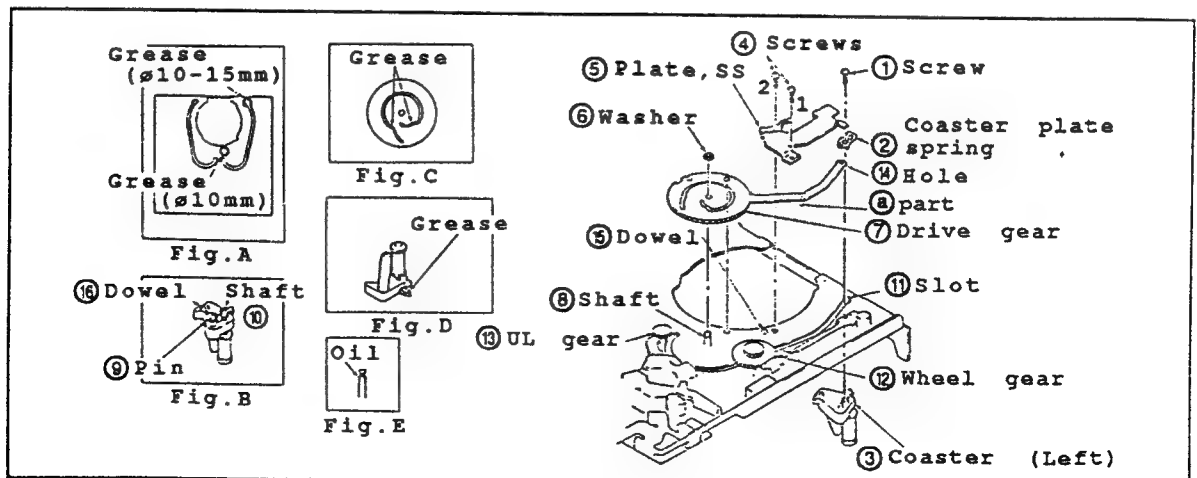

Fig.II-25
• Disassembling (Fig.II-25)
- (1) In the same procedures in "3-3" and "3-12", dismount the capstan motor and the drum unit.
- (2) In the same procedures in "3-13" and "3-14", detach the switch lever, and the loading lever.
- (3) In the same procedures in "3-17", detach the coaster (Right) and the drive gear (Right).
- (4) To take off the coaster plate spring ② and the coaster (left) ③, remove the screw ①.
- (5) To detach the plate SS ⑤, remove the two set screws ④.
- (6) To take off the drive gear (Left) ⑦, remove the washer ⑥ (ø1.5).
• Reassembling (Fig.II-25)
- (1) Apply the grease onto the indicated positions of chassis in the Fig.A.
- (2) Apply the 1/2 drop of oil onto the shaft ⑧. (Fig.E)
- (3) Apply the grease onto the pin ⑨, the shaft ⑩ and the dowel ⑬ of coaster (Left) ③. (Fig.B)
- (4) Assemble the pin ⑨ and the shaft ⑩ aligning the slot ⑪.
- (5) Insert the driver gear (Left) ⑦ into the shaft ⑩ while meshing with the wheel gear ⑫ and the UL gear ⑭.
- (6) Align ⑧ part with the slot ⑪, and the hole ② with the pin ⑨ of coaster (Left) ③.
- (7) Secure it with the washer ⑥ (ø1.5).
- (8) Install the coaster plate spring ② while aligning the shaft ⑩ and the pin ⑨ of coaster (Left) ③. Then, secure it with the screw ①. (Torque: 500g/cm, approx)
- (9) Attach the plate SS ⑤ while aligning with the dowel ⑬. Then, secure it the two screws ④ in numerical order.
- (10) Apply the grease onto the positions indicated in the Fig.C and D.